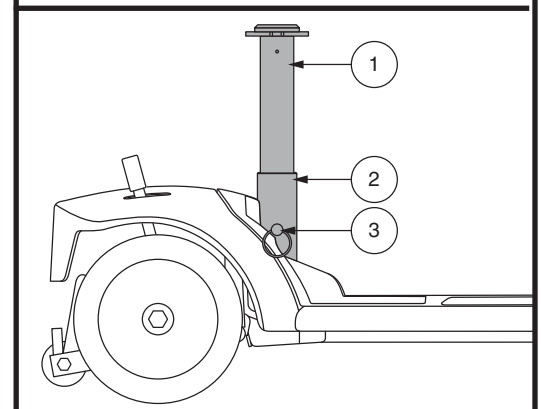

Figure 24. Seat Height Adjustment
The seat can be repositioned to different heights. See figure 24.
2. Remove the upper seat post from the Travel Scooter by removing the detent pin from the lower portion of the seat post, then lifting the post straight up and off the Travel Scooter. See figure 24.